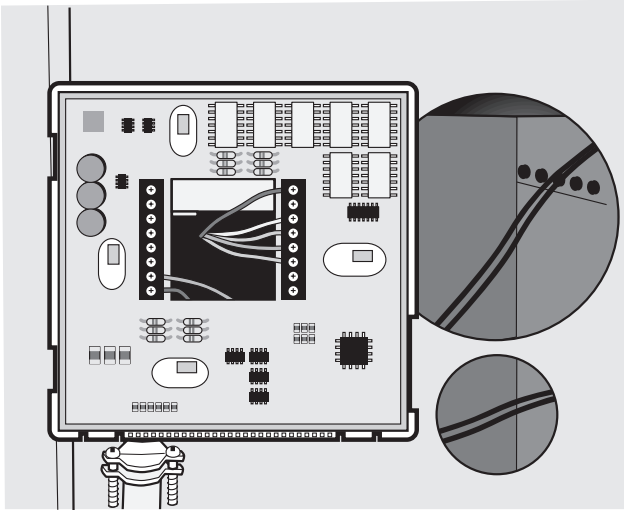

Fig. 7 — Equipment Control Module Mounting
13. Find a suitable indoor mounting location for equipment control module. The module should be mounted on or near the HVAC equipment. See Fig. 7.